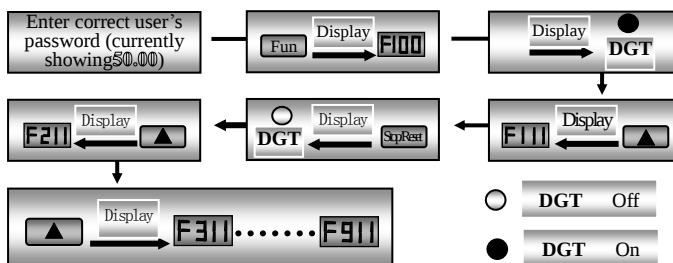

Fig 2-2 Switch over in a Code Group or between Different Code-Groups
e.g. when function code shows F111 and DGT indicator is on, press “▲”/ “▼” key, function code will keep increasing or decreasing by degrees within F100~F160; press “stop/reset” key again, DGT indicator will be off. When pressing “▲”/ “▼” key, function codes will change circularly among the 10 code-groups, like F211, F311...FA11, F111..., Refer to Fig 2-2 (The sparkling “50.00” is indicated the corresponding target frequency values).